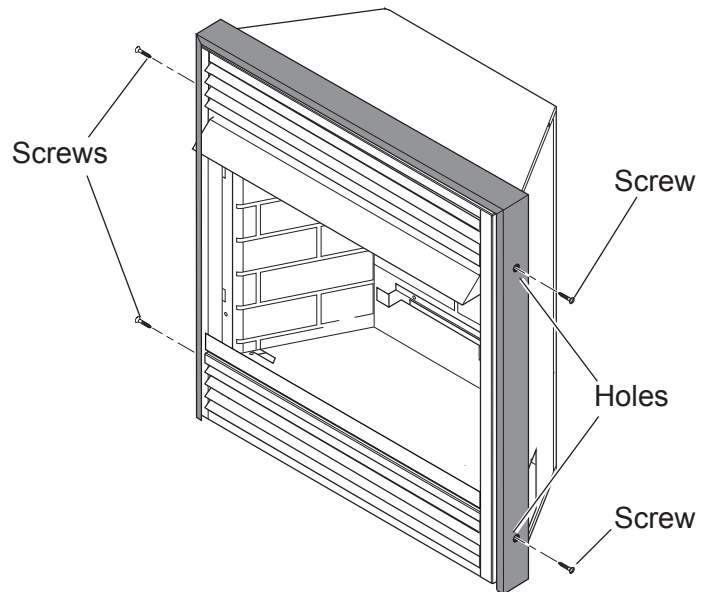

Figure 13 - Securing Trim to Heater with Four (4) Screws Provided
7. Align holes in assembled trim with holes in side of fireplace. Using a Phillips screwdriver, attach trim with four (4) screws provided — two for each side of fireplace. Tighten snugly. See Figure 13.